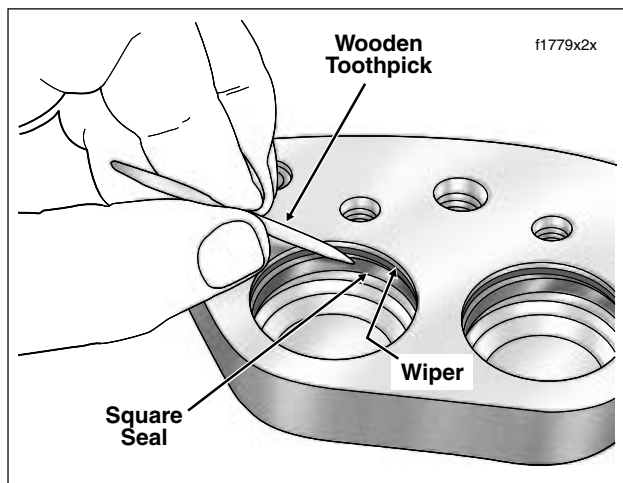

Figure 2-66. Remove Wipers and Square Seals From Piston Bores
8. Using a wooden toothpick, remove wiper and square seal from each piston bore. Discard wipers and seals. See Figure 2-66.